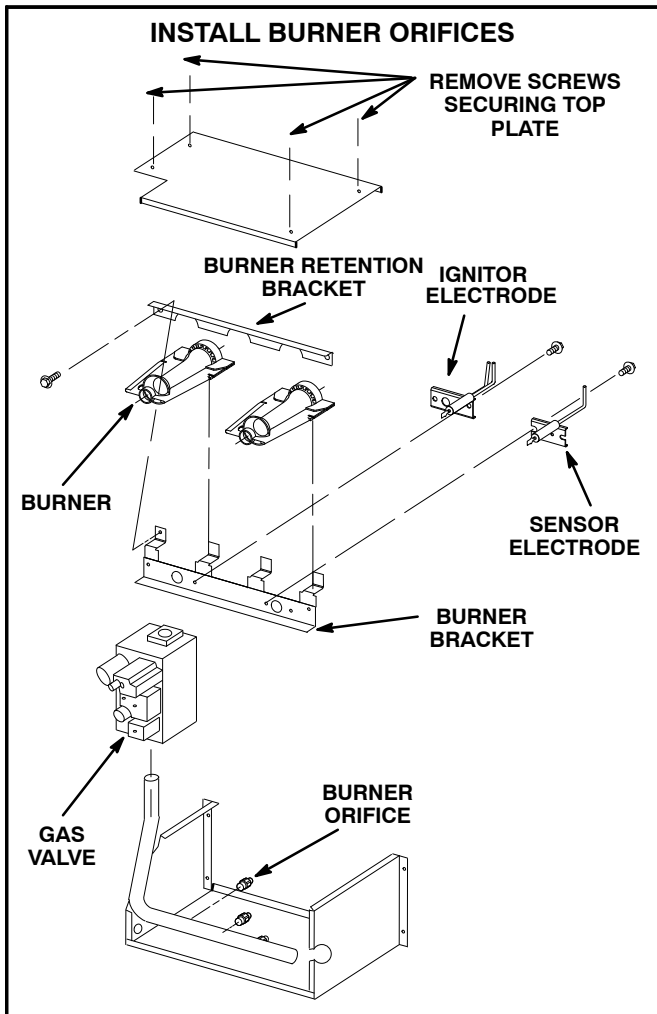

FIGURE 2
- 6- Tilt the burner box assembly outward and remove four screws securing the top plate of the burner box. See figure 2. Remove burner box from unit.